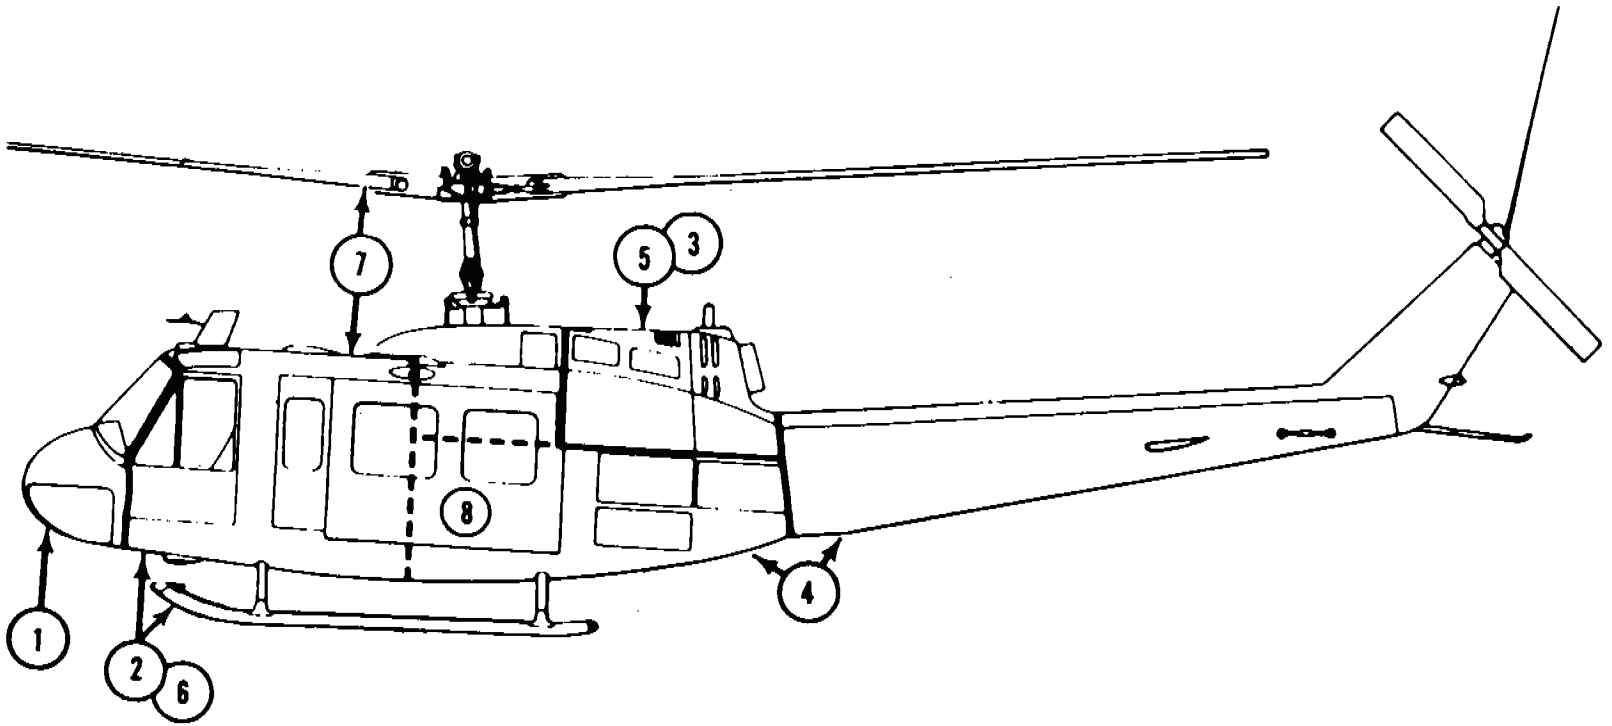

Figure 1. Inspection areas
6. INSPECTION AREAS. Inspection areas are shown in Figure 1.